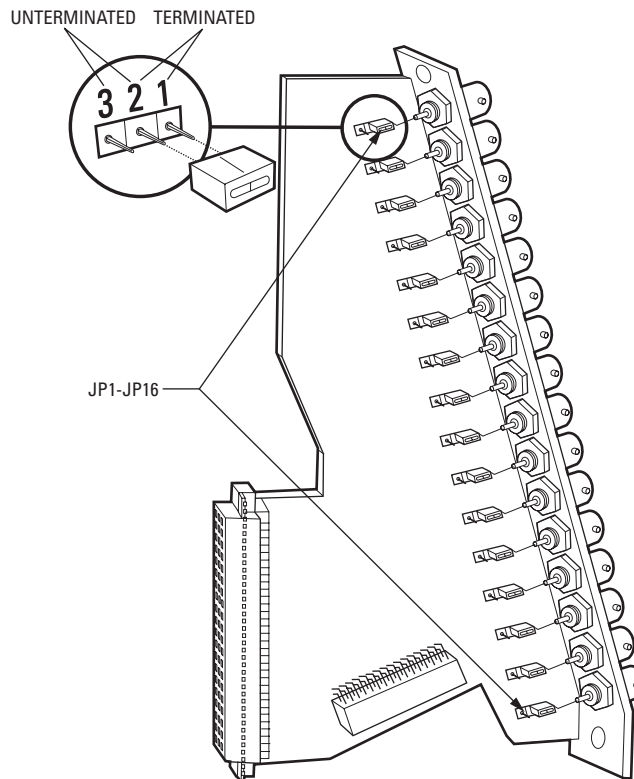

Figure 24. Termination Jumpers on CM9760-DFL Card
1. Set termination jumpers JP1-JP16 (refer to Figure 24) in the proper position: